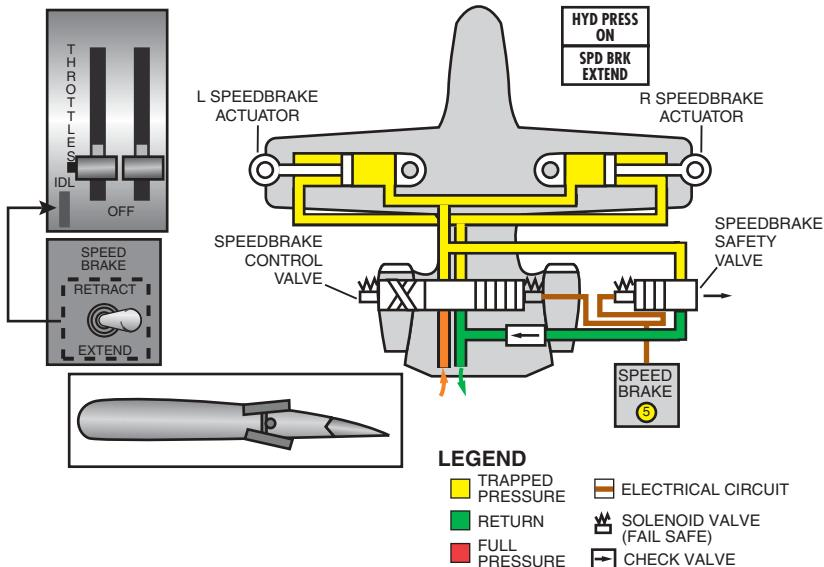

Figure SR-18. Speedbrake Operation
6. Speedbrakes (Figure SR-18):